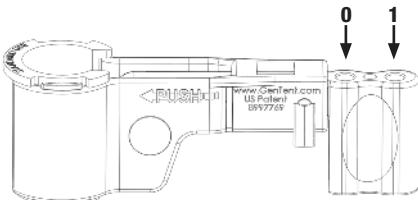

Figure 4A
4. Set the telescoping rod location (Fig. 4A and 4B) based on the setting number from the Easy Adjustment Guide and install set pin to secure.